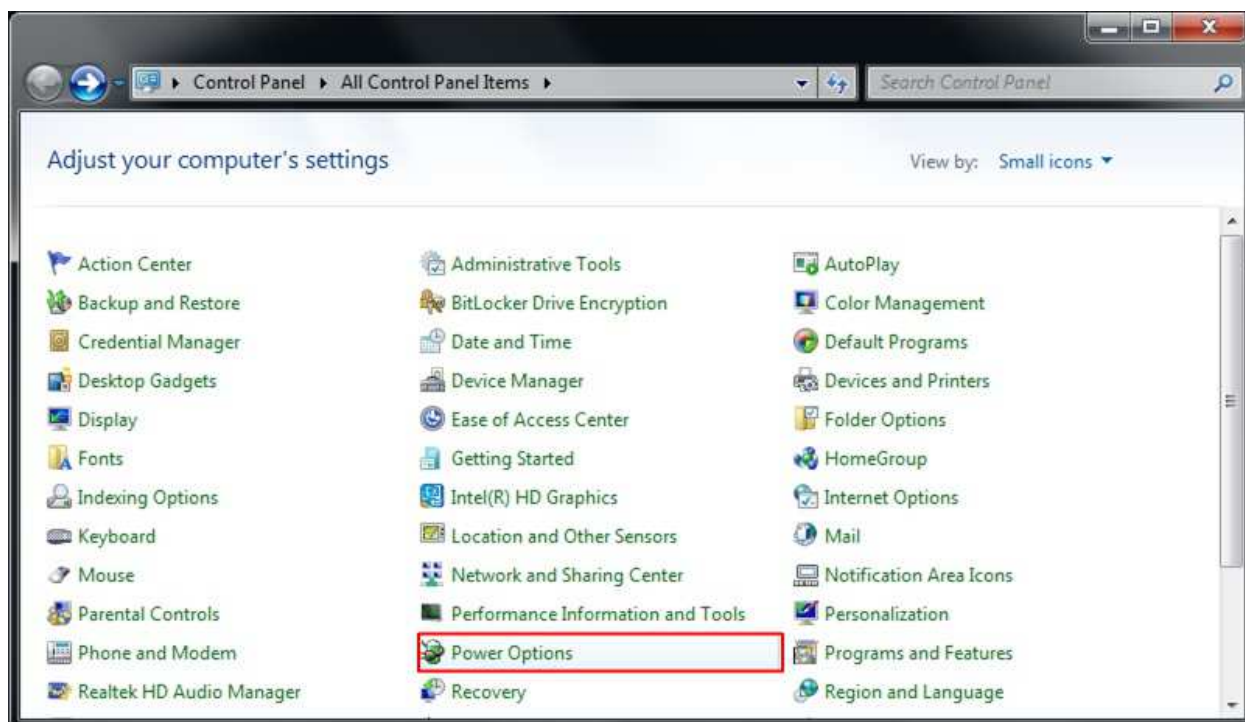

Figure 3-5 Power Options
- Open Control Panel and select Power Options as shown in Figure 3-5.